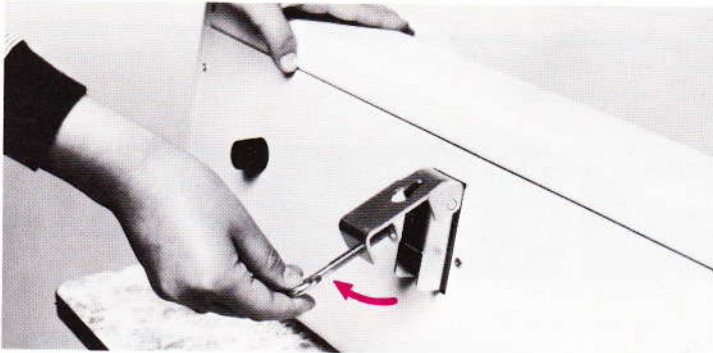

Fig. 1
- Place the case on the edge of the table, the handle facing away. Lift up the near side of the case to give access to the clamps underneath (fig. 1).